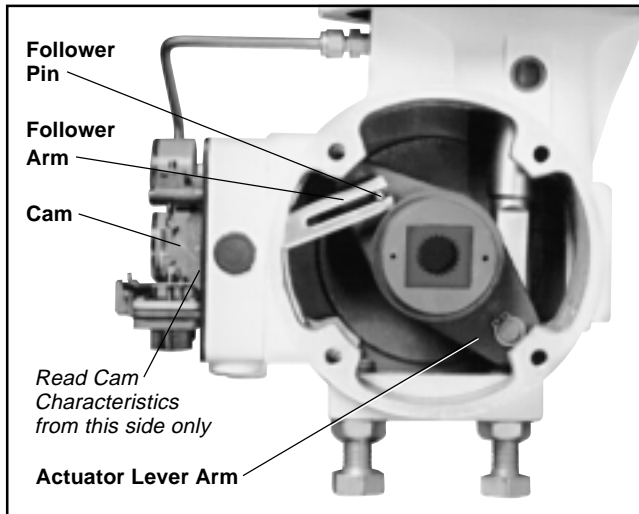

Figure 5: XL Series Positioner Installation on Valtek Rotary Actuator
- If the follower pin is present, insert it into the hole in the actuator lever arm and drive it firmly into place with a hammer. (See Figure 5.)
- Apply grease to the sliding surfaces of the follower arm before mounting the positioner to the transfer case. When mounting the positioner to the transfer case, make sure to guide the follower arm so the pin slides in the slot on the follower arm. (See Figure 5.) Fasten the positioner to the transfer case with the three mounting screws. Push up on the cam to verify the pin is riding in the follower arm slot or remove transfer case cover plate to inspect.